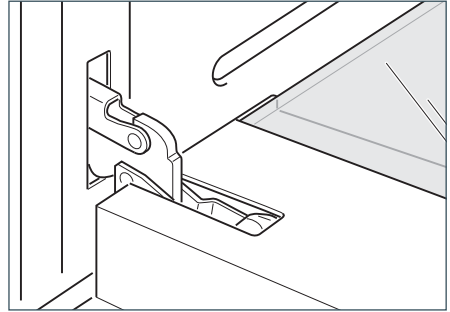

Fig.62a
- 1 Open the door to its full extent (Fig. 62a).